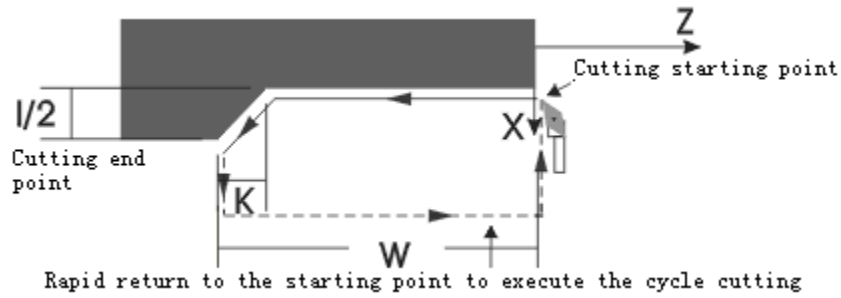

Fig. 4-22
1) G92 axial straight thread: as Fig. 4-22